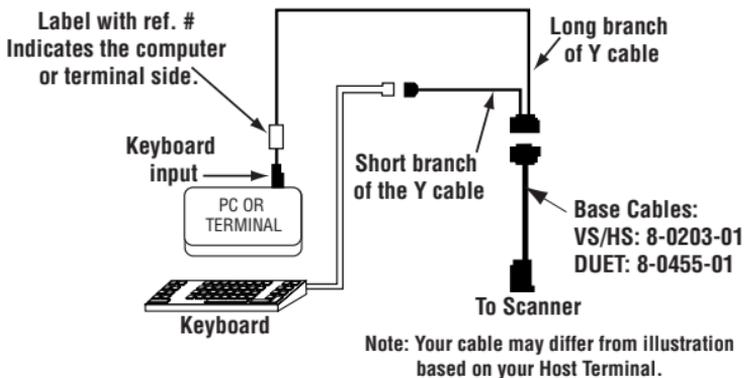

Figure 1. Keyboard-Wedge Cable Connections.
2. Unplug your keyboard cord from your computer or terminal and plug it into the female connector of the short branch of the Y cable. (See Figure 1).